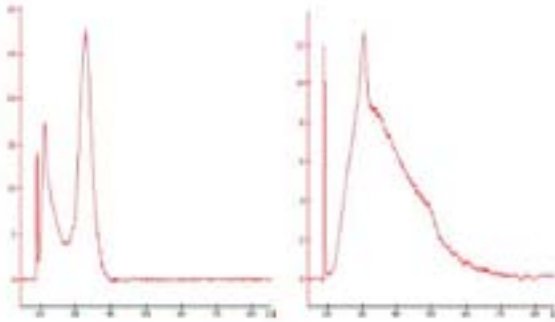
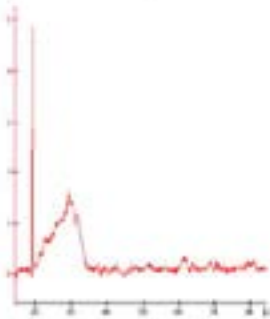

Figure 2: Examples of Bioanalyzer Traces of Nondegraded Samples
Figure 3: Example of Bioanalyzer Trace of a Degraded Sample
3. Review Bioanalyzer traces (Figure 2 and Figure 3) or agarose gels (Figure 4) for sample degradation. Degraded samples detected using the Bioanalyzer appear as significantly lower intensity traces with the main peak area shifted to the left with typically more noise in the trace.